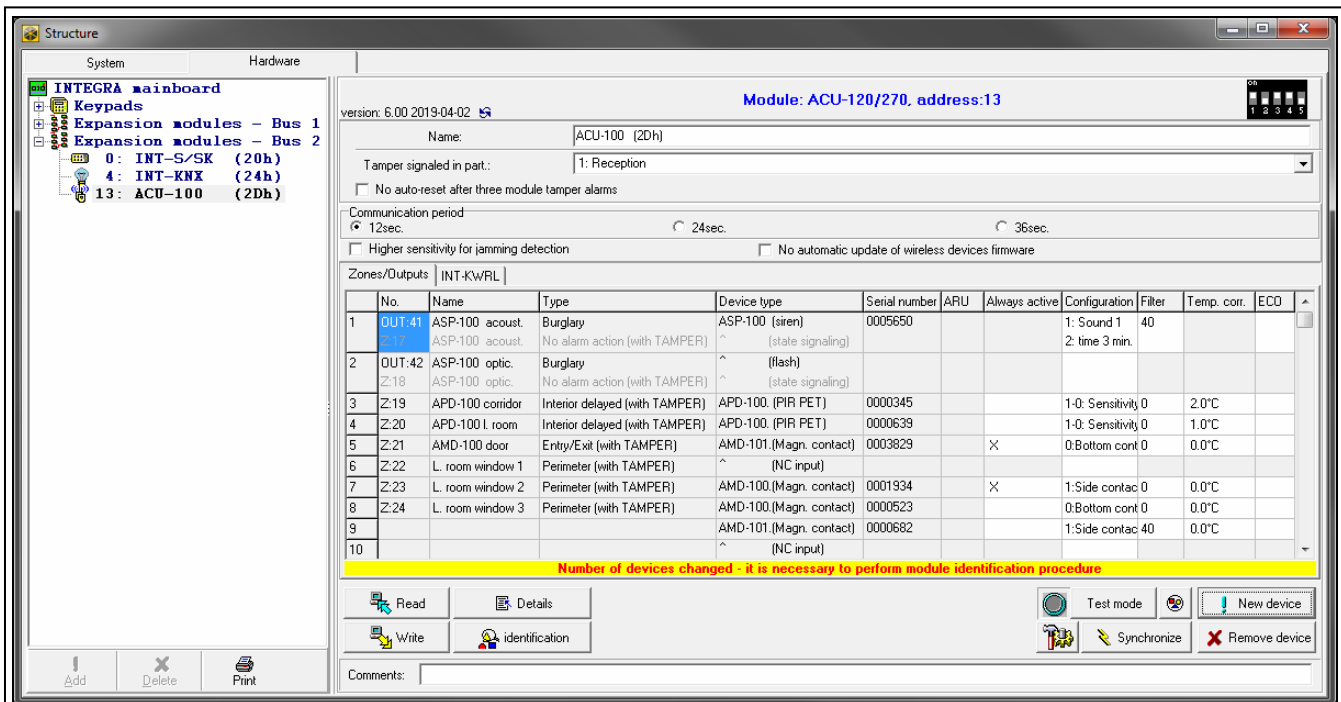

Fig. 19. DLOADX program: information displayed after registration of a new device to the INTEGRA / INTEGRA Plus control panel.
10. Click on the “identification” button (see Fig. 19). The new wireless zones / outputs will not be available in the alarm system until the procedure of expander identification is finished.